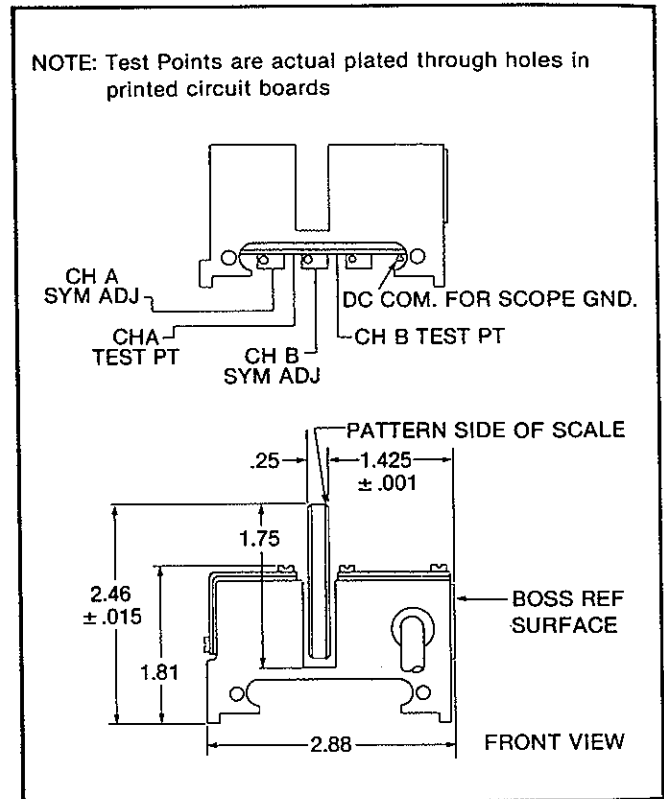

Figure 8 Transducer
2. Set up an oscilloscope to display a lissajous pattern with the scope voltage sensitivity set at 20 MV (AC) per centimeter and set dot at center screen. Attach probes to test points (See Figure 8); channel A test point to the vertical deflection plate and channel B test point to the horizontal plate.